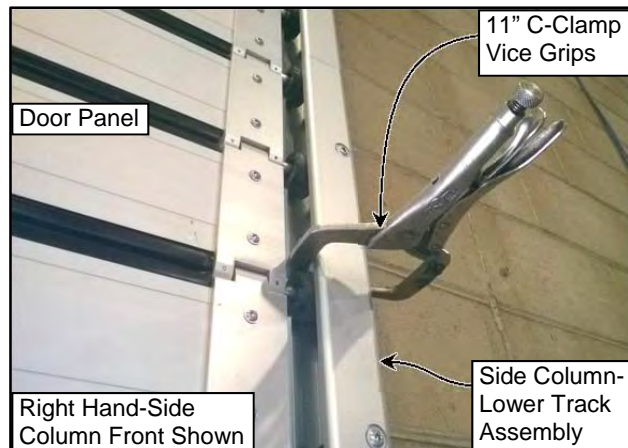

Figure 39
5. Vise grip both vertical tracks above one of the rollers on each side as shown. (See Figure 39)